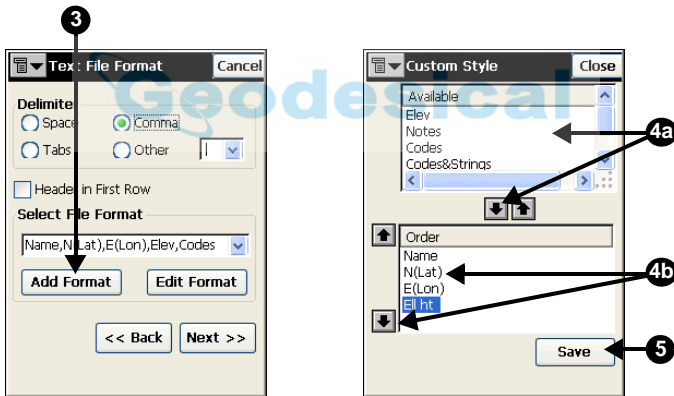

Figure 2-23. Create a Custom File Format
2. Continue through the screens until the *Text File Format* screen displays (Figure 2-23).
4. Select an item in the Available list and tap the move down arrow to include it in the custom format (Figure 2-23).